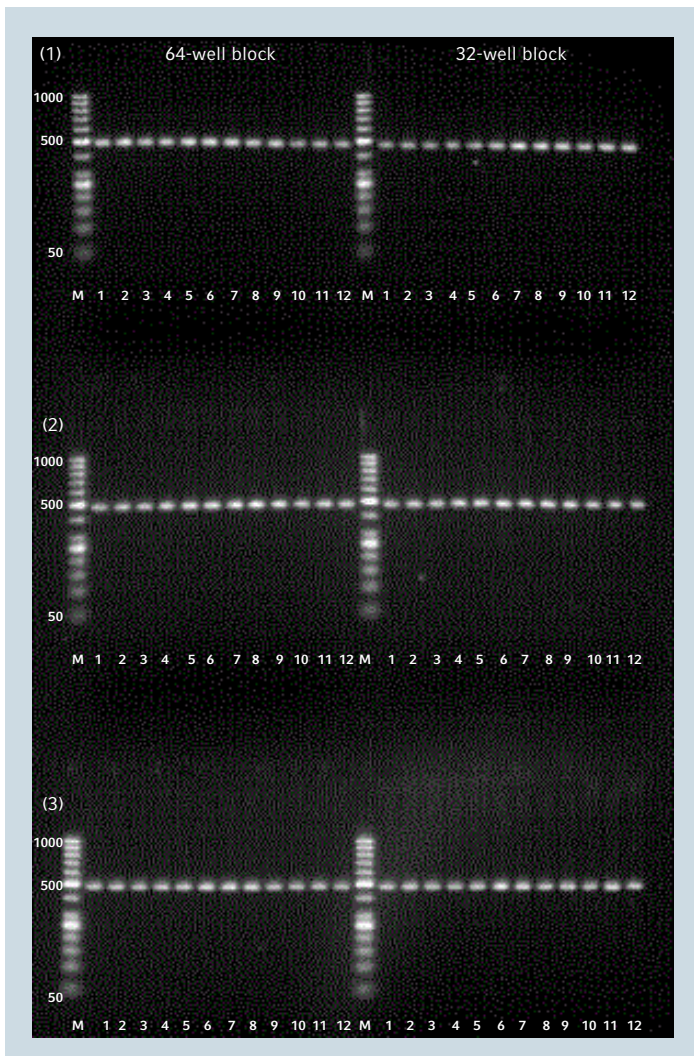

Fig. 4a: Gel image of the PCR products resulting from the triplicate repeat PCR runs on the 64-well block and 32-well block.
Triplicate repeat PCR runs, each with 12 samples, served to verify the reproducibility of the PCR results obtained from one block, as well as the comparability between the PCR products resulting from the 64-well block and the 32-well block, respectively (fig. 4a). Analysis of the PCR product concentration, as quantified on the Agilent 2100 Bioanalyzer using the Agilent DNA 1000 kit, shows that product yields are reproducible on both blocks (fig. 4b). With an overall average PCR product concentration of 26.82 ng/μL and a standard deviation of 2.5 ng/μL, the 36 samples from the 32-well block show comparable performance across all three runs. The 64-well block shows similar results, i.e. 27.14 ng/μL and 2.95 ng/μL, respectively. These results further highlight not only consistent quality of results within one block, but also a high degree of consistency between the 32-well block and the 64-well block.
Fig. 4b: Arithmetic means +/- standard deviations of the PCR product concentration of the triplicate repeat PCR runs (light gray bar corresponds to (1) on the gel (fig. 4a), medium gray bar to (2) and dark gray bar to (3)) on the 32-well block and 64-well block. The blue bar displays the overall arithmetic mean +/- standard deviation of the respective block.